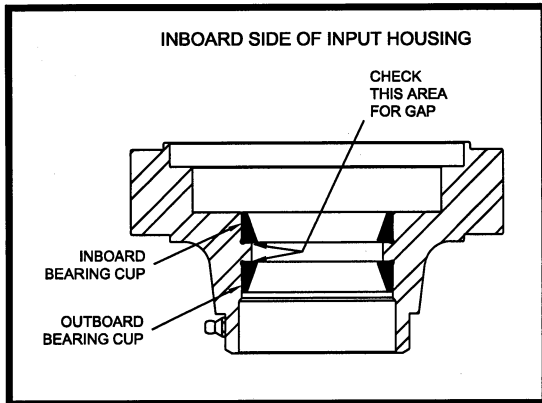
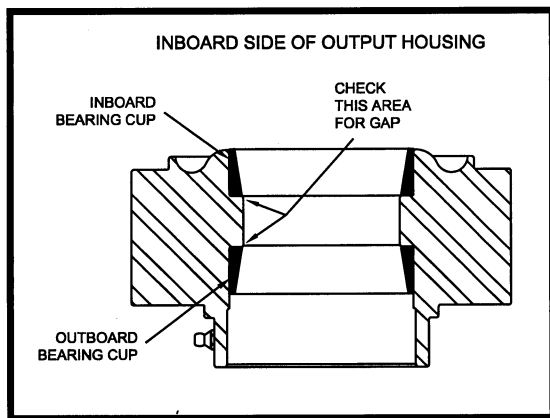

Figure 6.3.4a Installation of Bearing Cups in Input Housing
Figure 6.3.4b Installation of Bearing Cups in Output Housing
3. With a 0.001" or 0.040 mm feeler gage, make sure that there is no gap between the housing and the bearing cups to insure proper cup seating. **Reference Figure 6.3.4a and Figure 6.3.4b.**